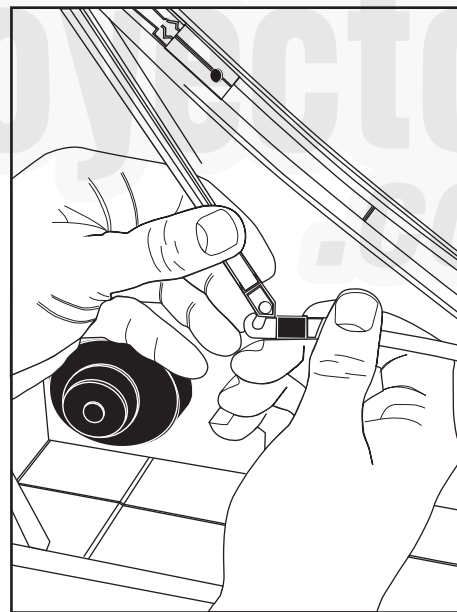

Fig. 170 — Belts Linked Together
5. Link belt ends together with belt wrapped around wheel (Fig. 170).